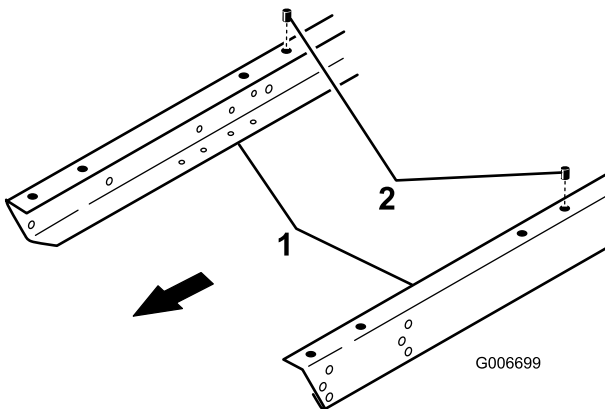

Figure 14
2. Locate and remove the threaded insert from the mounting hole in left and right vehicle frame channels, as shown in Figure 14.